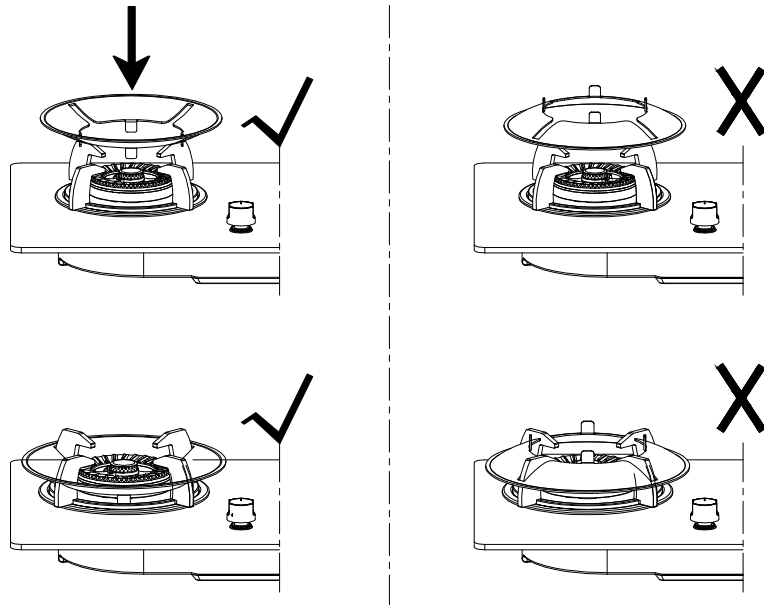

Fig 4
3. Correct Use of Heat Deflector as shown Fig 4.